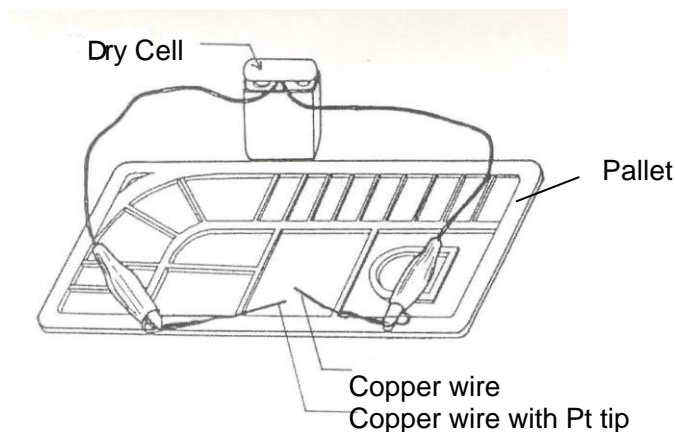

Fig 1. Simple Electrolysis Apparatus
- Simple electrolysis apparatus as shown in Fig 1.